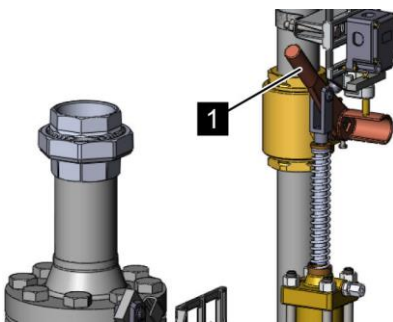

Fig. 137: Closing the selector valve
1. ➤ Fit the hand lever (Fig. 137/1) onto the operating element of the selector valve.
3. ➤ Take off the hand lever of the operating element (Fig. 137/1) and store it safely in the vicinity of the system.